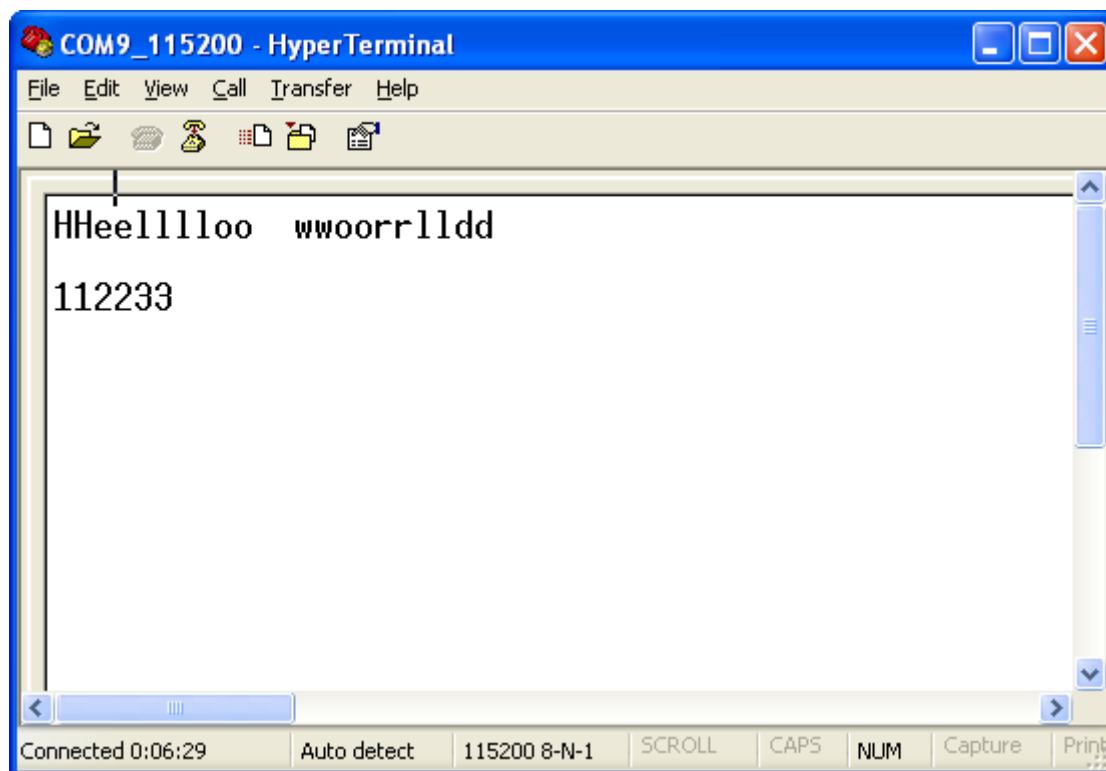

Figure B-4. COM9_115200 - HyperTerminal
4. The HyperTerminal is configured now. Whatever is typed will be echoed back from the virtual COM port. Therefore, it appears in duplicate as shown in Figure B-4.